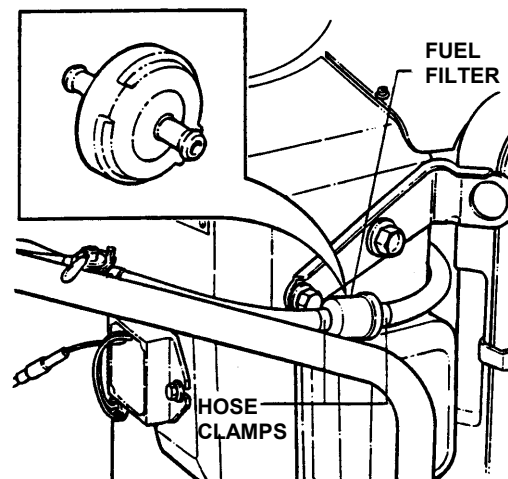

FIGURE 3.9
3. Install new fuel filter. See Figure 3.9.